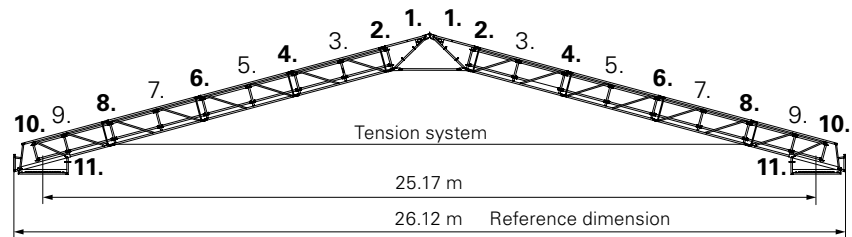

Fig. B1.06a
- with tension system (Fig. B1.06a),
(Fig. B1.06a)